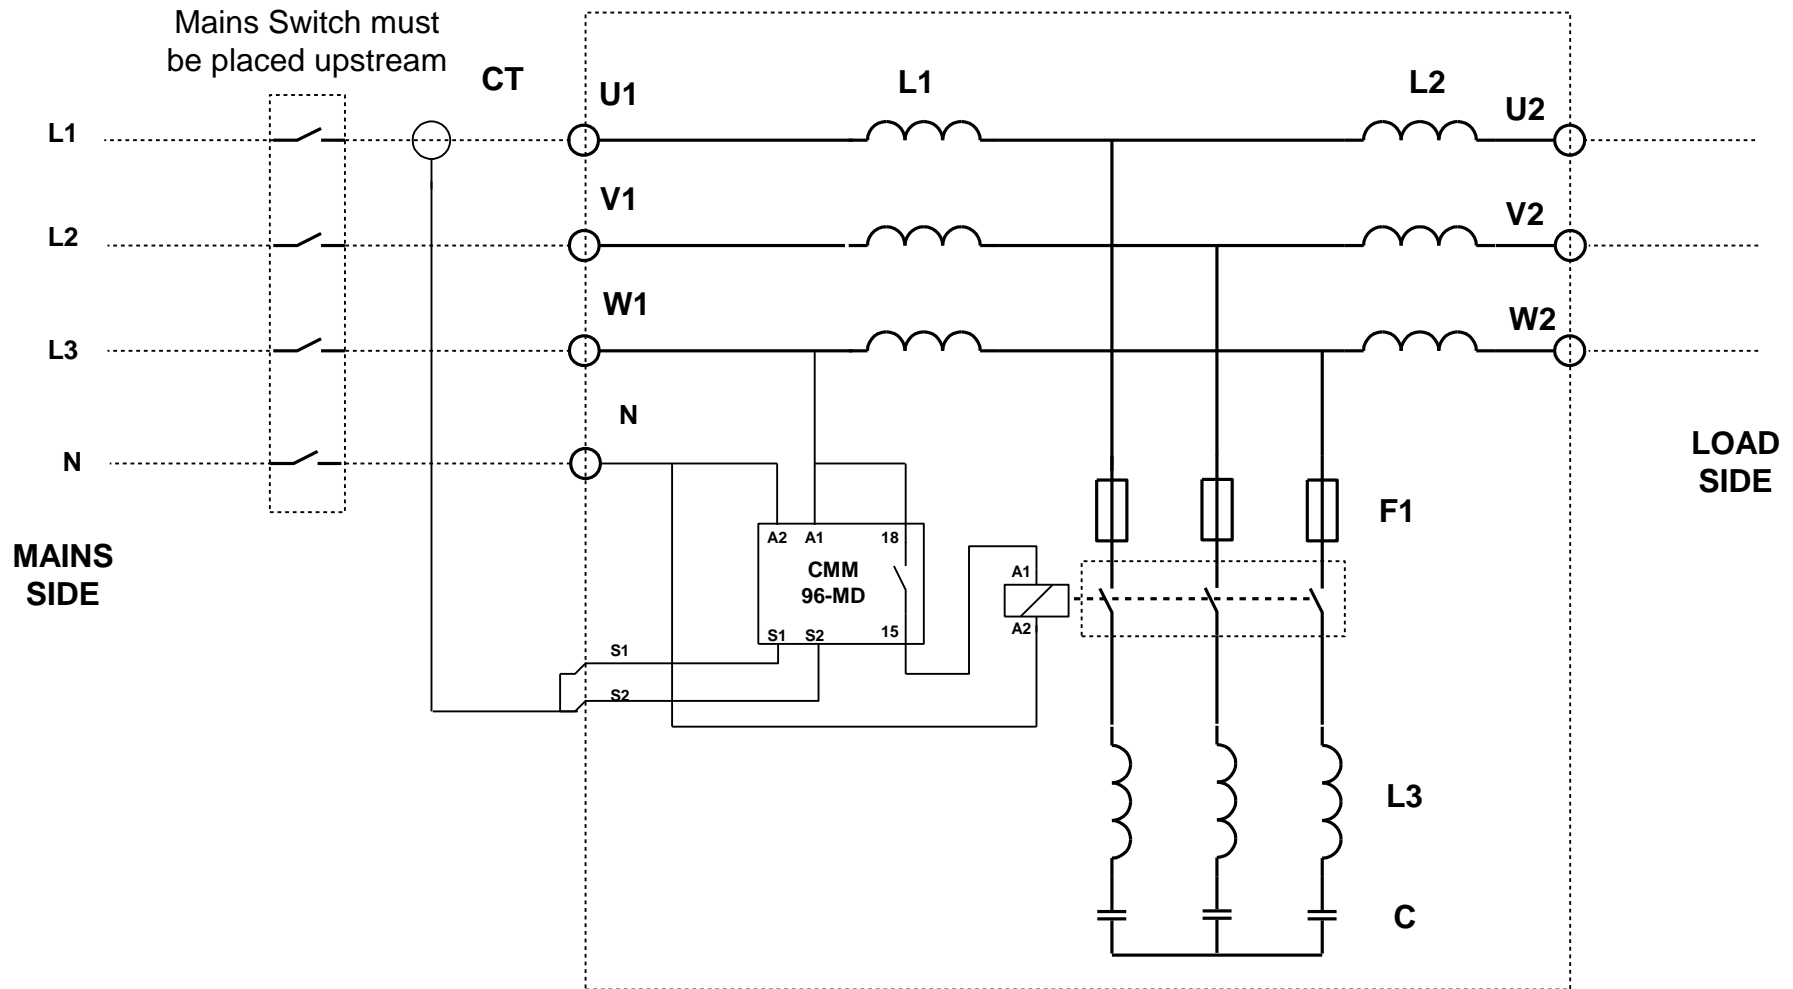

Fig. 3.- Schematic drawing
5.3 Connecting the power circuit. (see schematics in Fig 3)